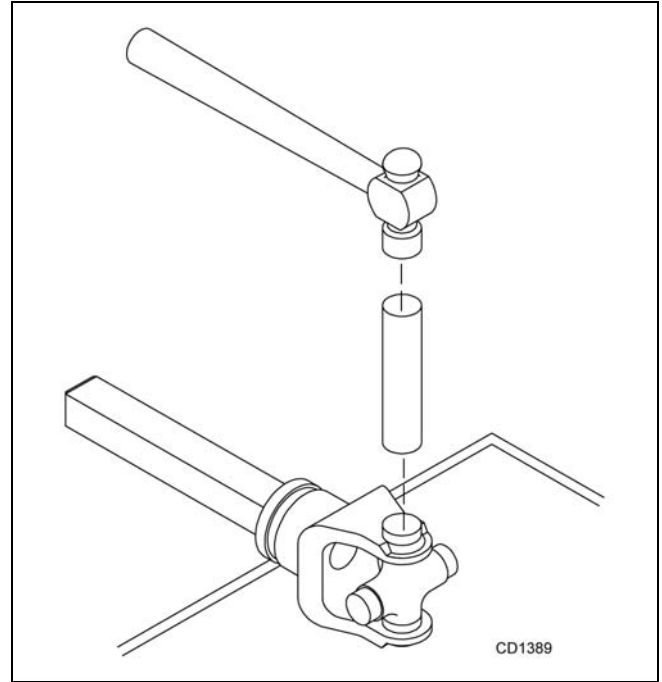

Figure 21. Install Cups
3. Seat cups by placing a drift or socket (slightly smaller than the cup) on cup and rap with a hammer. See Figure 21. Install snap ring and repeat on opposite cup